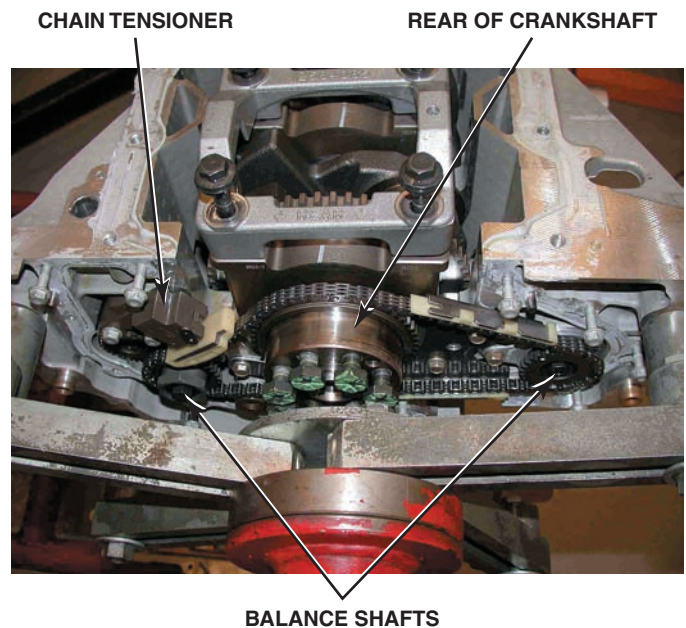

FIGURE 31-20 This General Motors 4-cylinder engine uses two balance shafts driven by a chain at the rear of the crankshaft.
- Most 4-cylinder engines larger than 2.2 liters use balance shafts. These are often located underneath the crankshaft. ● **SEE FIGURE 31-20.**